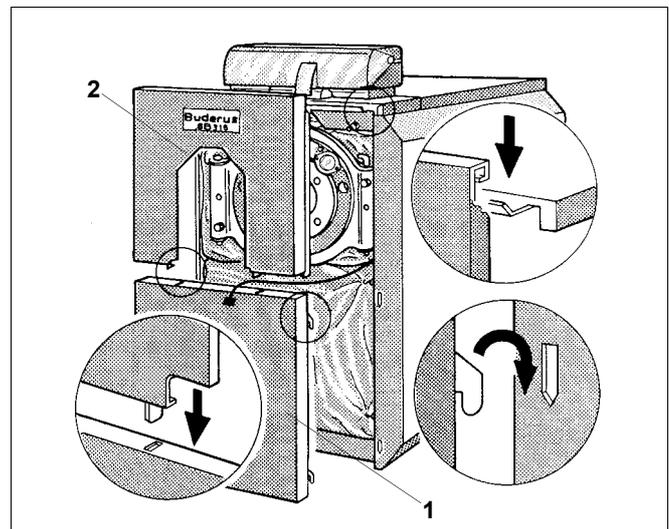

Fig. 25 Install the front panel SB315
- Hook the lower front panel (Fig. 25, **item 1**) with four offset hooks into the slots of the side panel angle.
- Hook the offset tabs of the top front panel (Fig. 25, **item 2**) into the slots of the lower front wall angle and at the top into the angle of the front boiler cover.